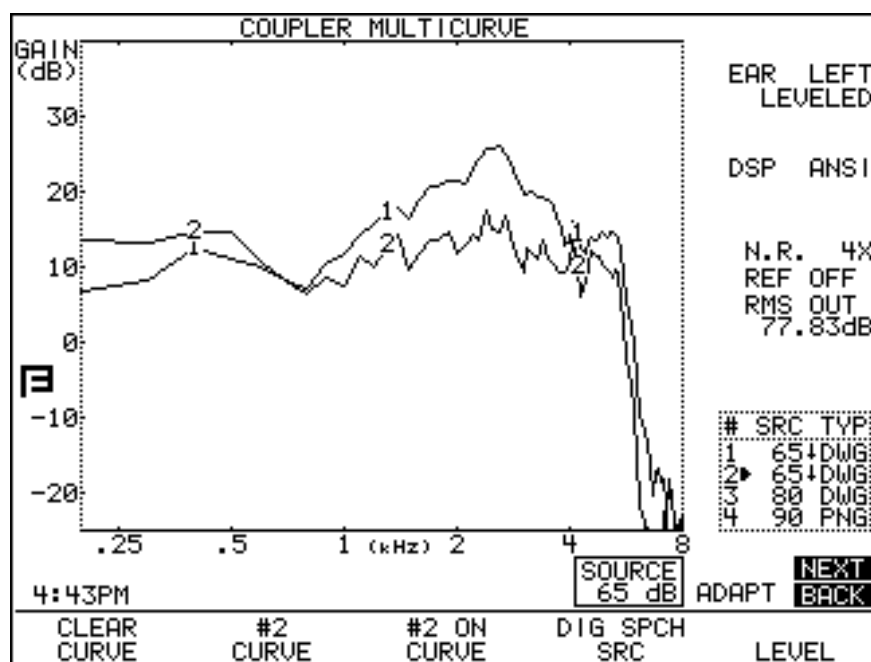

Figure 3.8.2D—Comparison of the directional response of the hearing aid at 0°(CRV1) and 180°(CRV2)
20. Compare CRV 1 and CRV 2. See Figure 3.8.2D. If the hearing aid's response didn't change when you rotated the aid in Step 15, it is a very good indication that the aid's directional microphones are not working properly.